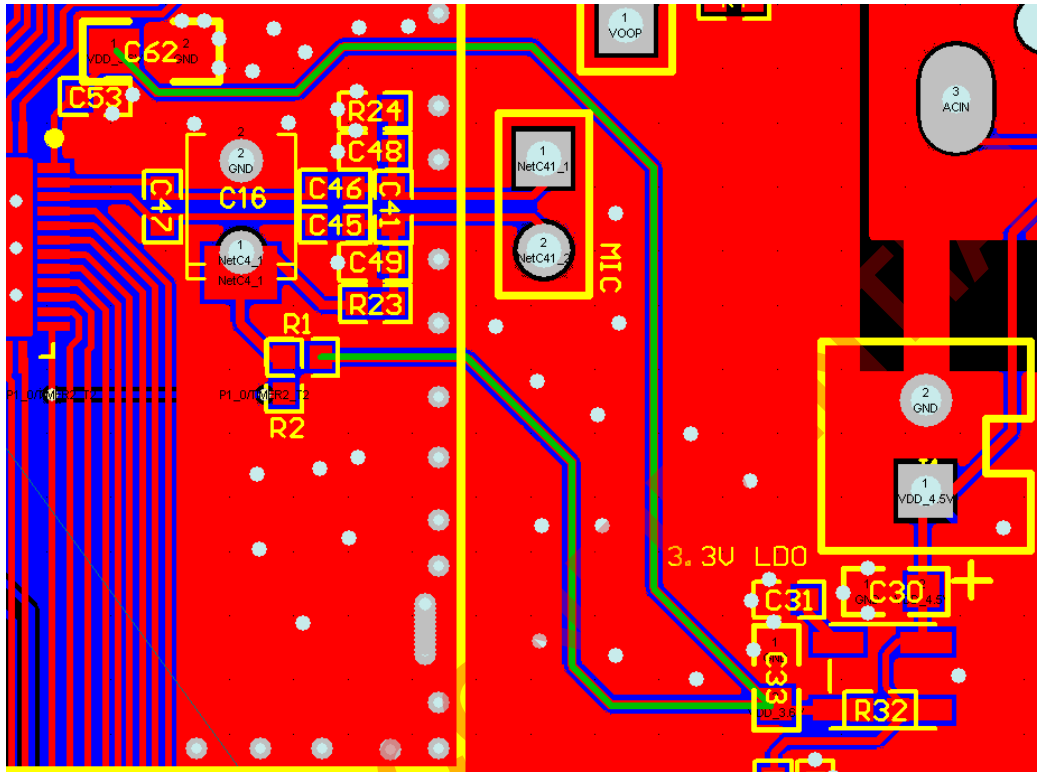

Fig 2.2h Power lines(green)
10. The 3.3V input power lines of microphone and pin 63(VDD_CD), should be separated from the 3.3V LDO output and routed independently. Please refer to the green traces in Fig. 2.2h